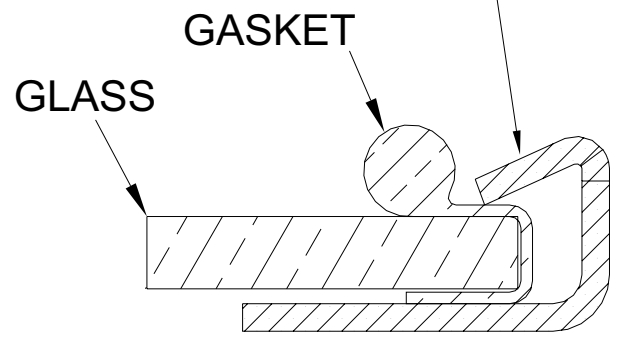

Figure 48
4. Place glass and gasket assembly in glass frame and carefully bend down glass retainer tabs (Figure 48). Extra glass retainer tabs are provided should any originally used tabs break off.